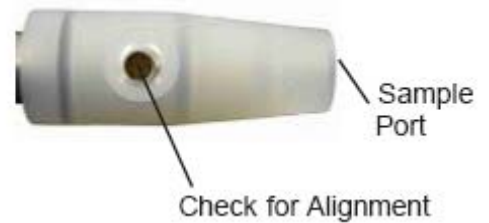

Figure 9
6. Align purge port with hole in shell tube (Refer to Figure 9).